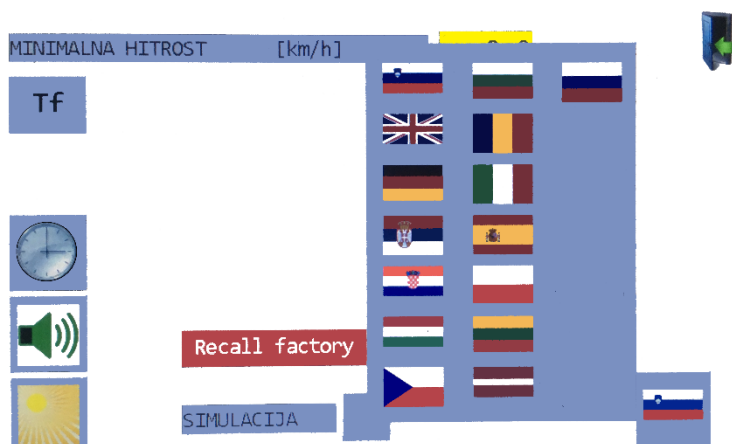

Figure 36
- Language is selected by pressing the language selection box (Figure 36).